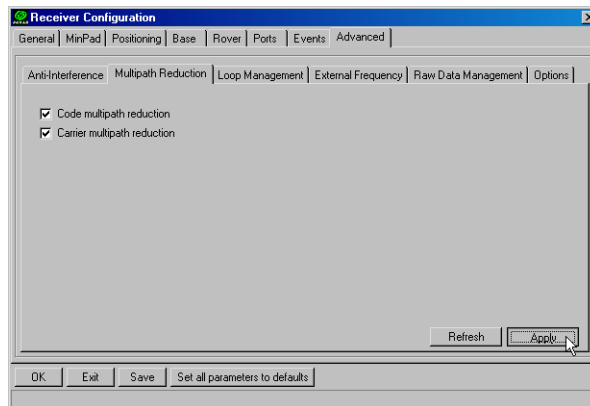

Figure 3-6. Advanced->Multipath
3. Click the **Advanced** tab and then the **Multipath** tab, set the following parameters, then click **Apply** (Figure 3-6):